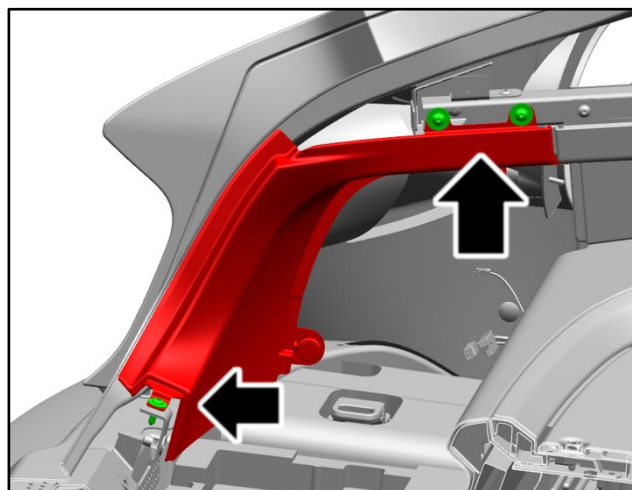

Figure 8
10. Remove the three fixings for the left-side, rear trim panel (refer to Figure 8).
11. Remove the left-side, rear trim panel (refer to Figure 8).